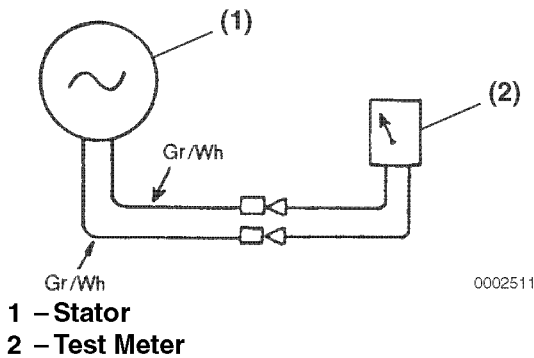

Figure 9-8
1. Disconnect the stator leads from the regulator / rectifier (**Figure 9-8**).